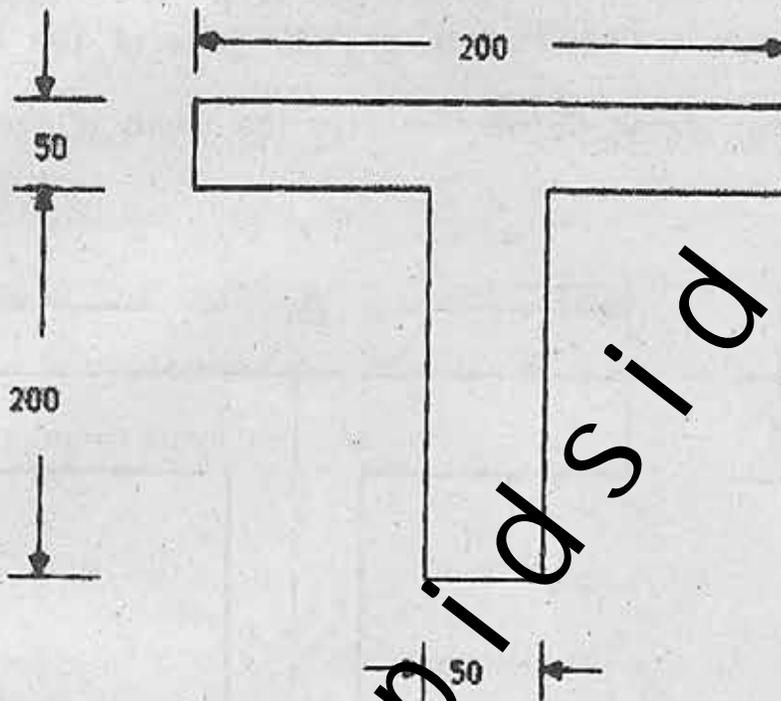

Fig. 5
- (b) A T-shaped cross-section of a beam shown in Fig. 5, is subjected to a vertical shear force of 100 kN. Draw shear stress distribution diagram. Moment of inertia about the horizontal neutral axis is $113.4 \times 10^6 \text{ mm}^4$. [10]